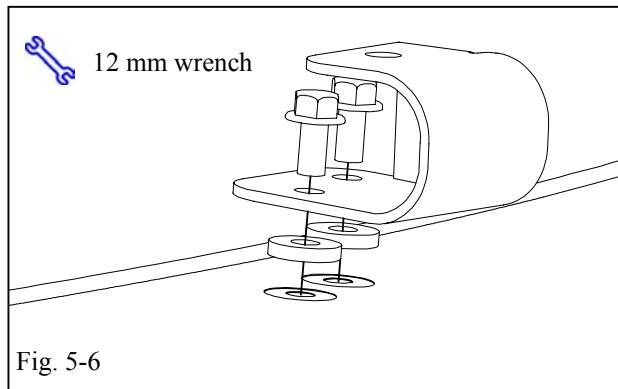

Fig. 5-6
- (p) Install left hand lamp bracket with 2 M8 bolts and 2 washers. Tighten the bolts to 15 lbs-ft. (Fig. 5-6)